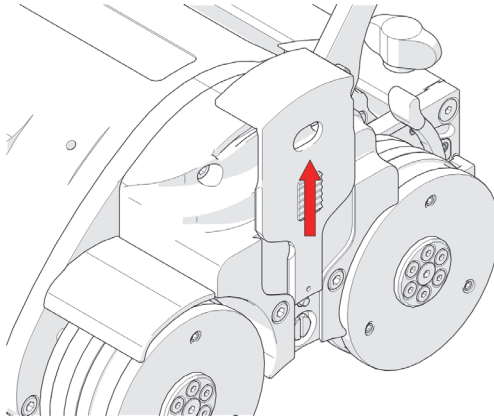

Figure 2-17 Lift retainer by hand
1. Gently apply pressure to the grooves of the cable retainer and lift (see Figure 2-17 on page 58).